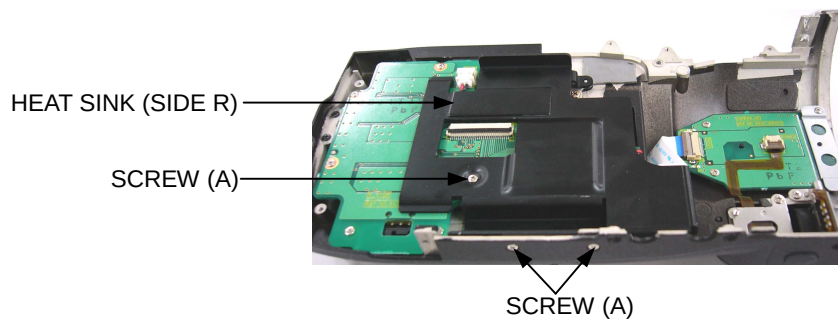

Figure 12-1
3. Unscrew the 3 screws (A) and remove the HEAT SINK(SIDE R) as shown in figure 12-1.